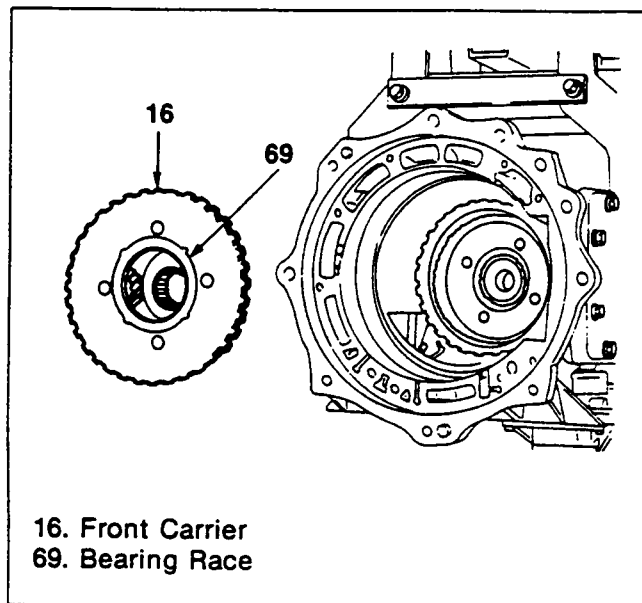

Figure 264. Front Carrier Installation (2)
2. Attach the front carrier to the forward clutch assembly (figure 264).